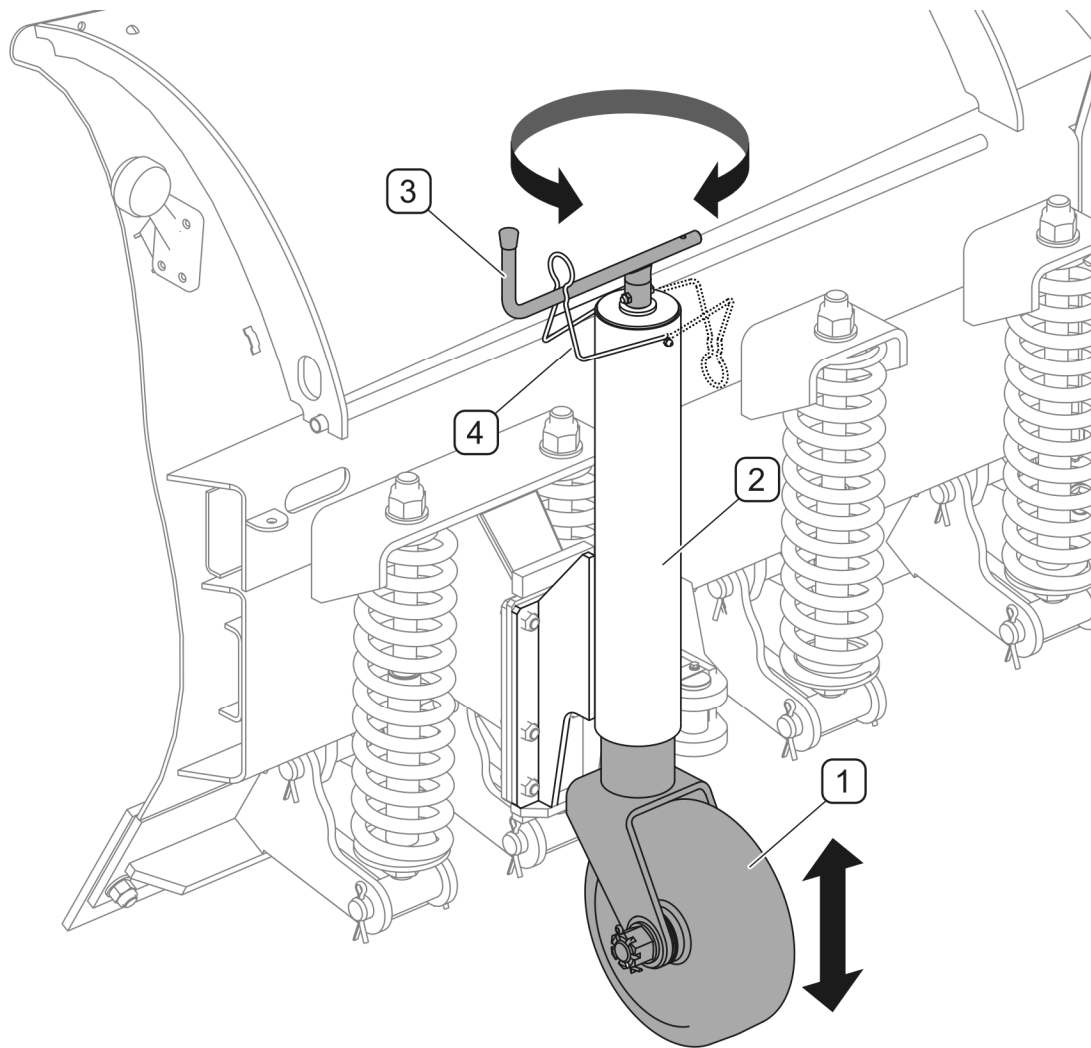

FIGURE 4.8 Height adjustment in ploughs equipped with wheels
(1) - wheel; (2) - body; (3) - knob; (4) - knob lock
In ploughs equipped with supporting wheels (FIGURE 4.8), the height adjustment is performed by withdrawal or insertion of wheel (1) in the body (2) by turning the knob (3). The handle is protected by a lock (4). After setting the wheel height, appropriately set handle (3) and secure it with lock (4). It is recommended that both wheels are set at the same height.